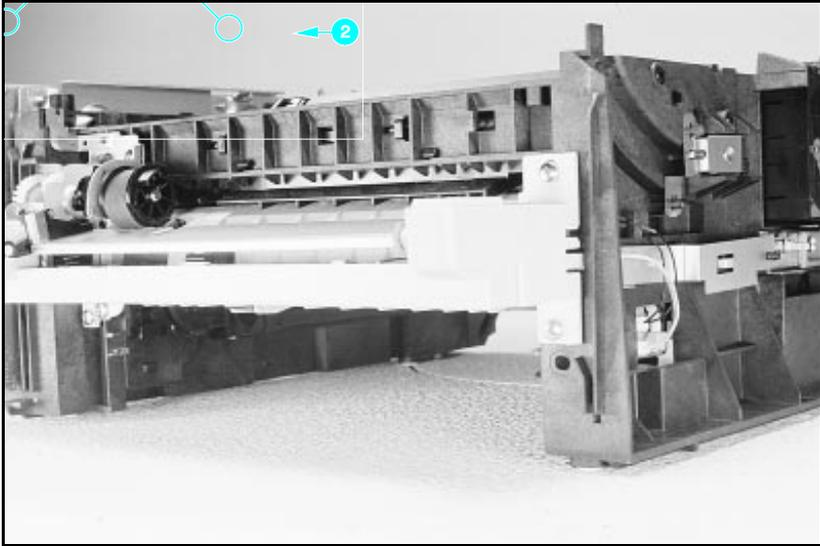

Figure 22 Tray 1 Pickup Assembly Locations.
2. Unplug the two cables (Callout 2 in Figure 22) by grasping the cables where they attach to the plug and pulling straight back.
4. Remove the 5 screws (callout 1 in Figure 22) from the front of the pickup assembly. (Two screws are adjacent in the lower left corner.)